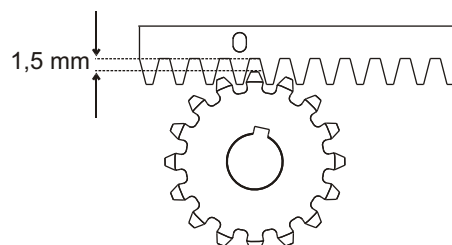

Fig. 11
5.6. Set the rack 1.5 mm higher to avoid the gate weight loading on the pinion (Fig. 11).